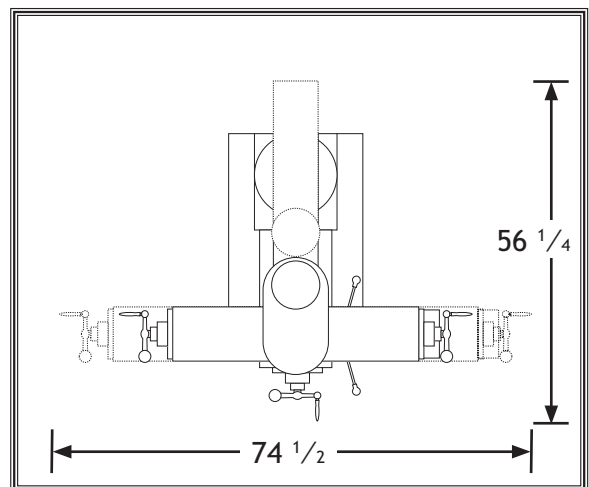

Figure 4. Working clearances.
- **Working Clearances:** Consider existing and anticipated needs, size of material to be processed through the machine, and space for auxiliary stands, work tables or other machinery when establishing a location for your mill (see **Figure 4**).